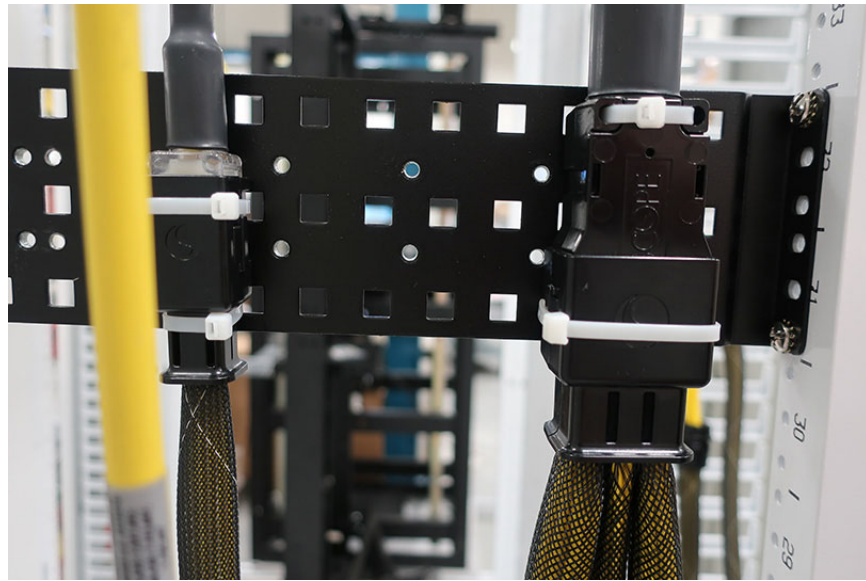

Figure 22. Trunks With Protective Mesh Fitting Secured in Cable Clamps
- **Note:** Some cables are shipped with protective mesh tubing already installed as shown in Figure 22 at the cable clamp and in Figure 23 at the entry point to the EHD panel.